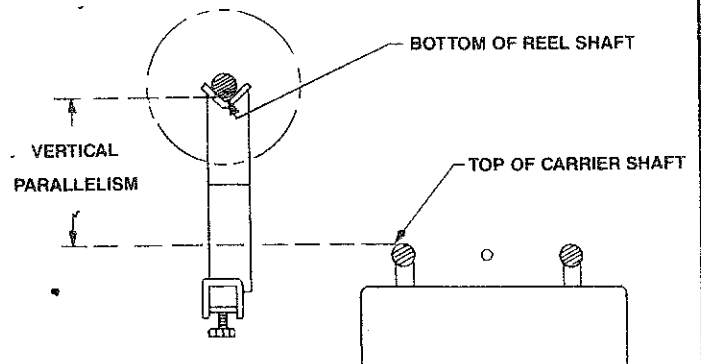

FIG. 66
- B. Raise the indicator slide casting on the vertical support so that the indicator rod can be extended over the center shaft of the reel. (See FIG. 66) Page 4 for parts description).